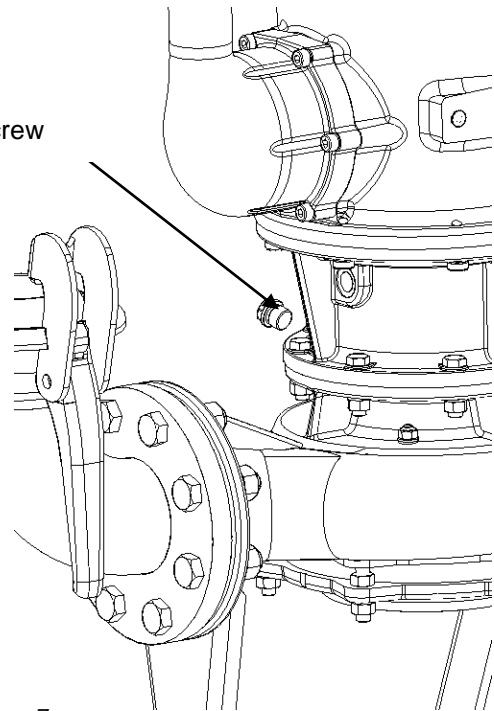

Figure 7
- Open the oil level checking screw (see figure 7).